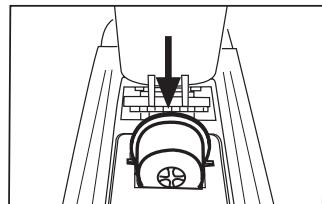

Fig. 9
- Slowly lift the control lever (1) backwards (until it stops) (**Fig. 8**) and introduce a capsule in the slot provided (**Fig. 9**)